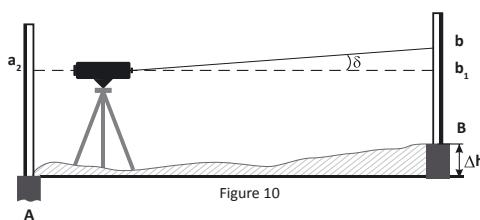

Figure 10
b) Move the instrument and set it at distance 1-2 m from the staff A (Figure 10). Level the instrument and take the readings a2 and b2 on the staffs A and B accordingly. If  $|a_2 - b_2| - |a_1 - b_1| < 3 \text{ mm}$ , further adjustment is not needed.